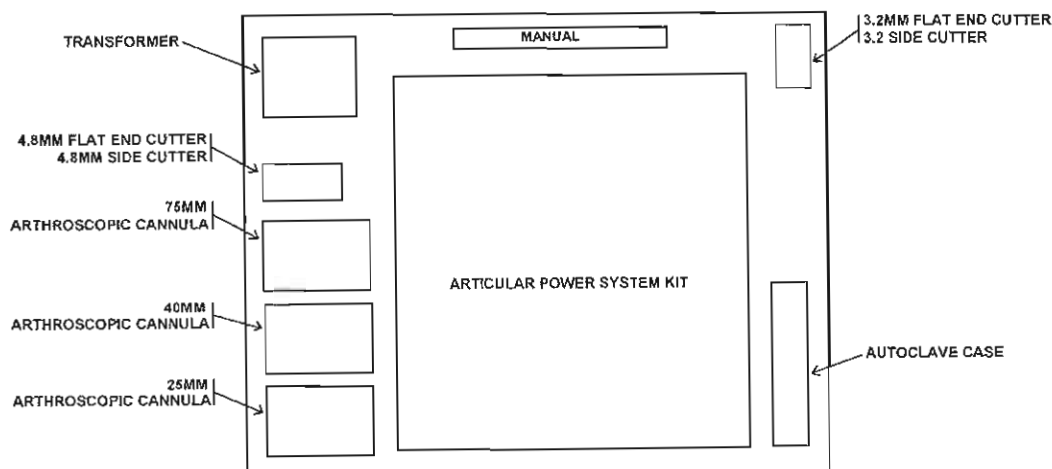

Figure 1-18. Laminated packing illustration.
(10) A laminated packing illustration (located on the lid of the shipping case) is depicted in figure 1-18.